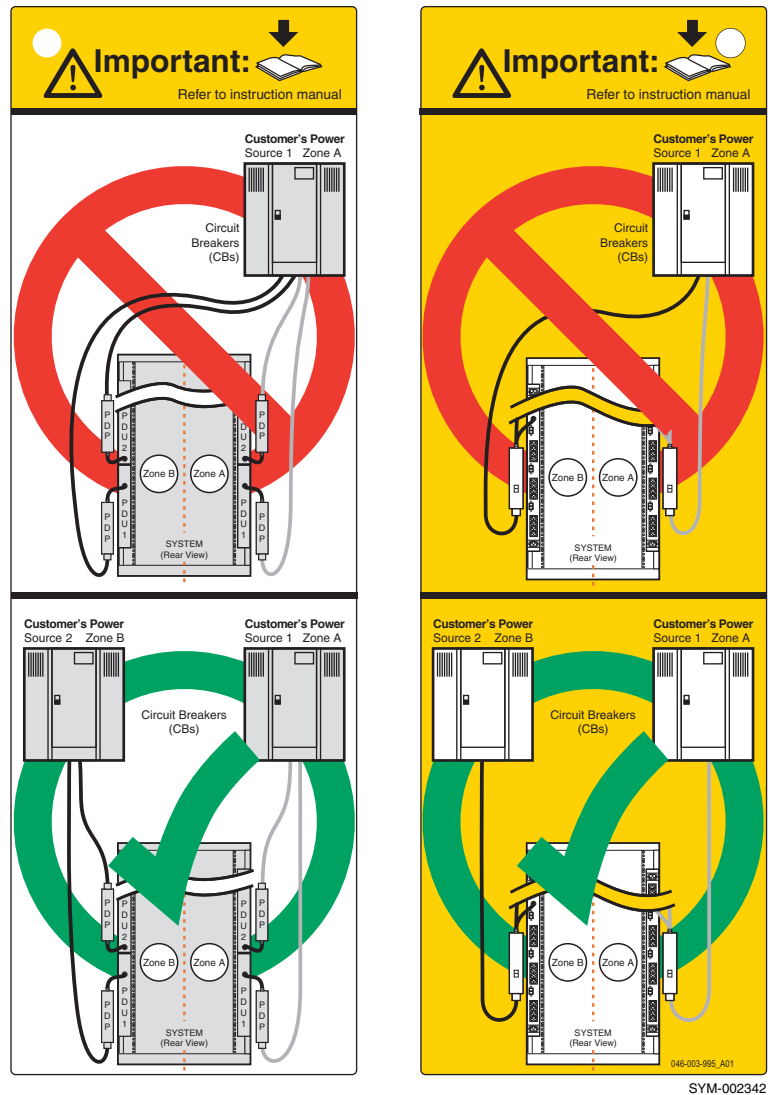

Figure 45 Correct and incorrect connection to redundant power sources
Figure 45 on page 71 shows the label attached to each of the power cables exiting the Symmetrix system and storage bay. The label shows the Symmetrix bay *incorrectly* cabled to one power source and *correctly* cabled to two separate independent power sources.
- ◆ The EMC Customer Engineer should discuss with the customer the need for validating AC power redundancy at each bay, and that a Data Unavailable (DU) event could occur if these requirements are not met.
- If both power drops to a bay are connected to the same PDU incorrectly, a DU event will result during normal data center maintenance when the PDU is switched off. The label on the power cables depicts the correct connection, as shown in Figure 45 on page 71.
Very simply stated, one PDU should never supply both power zone feeds to any one rack of equipment. Figure 45 on page 71 shows the label attached to power cords that shows how to connect to customer power sources.